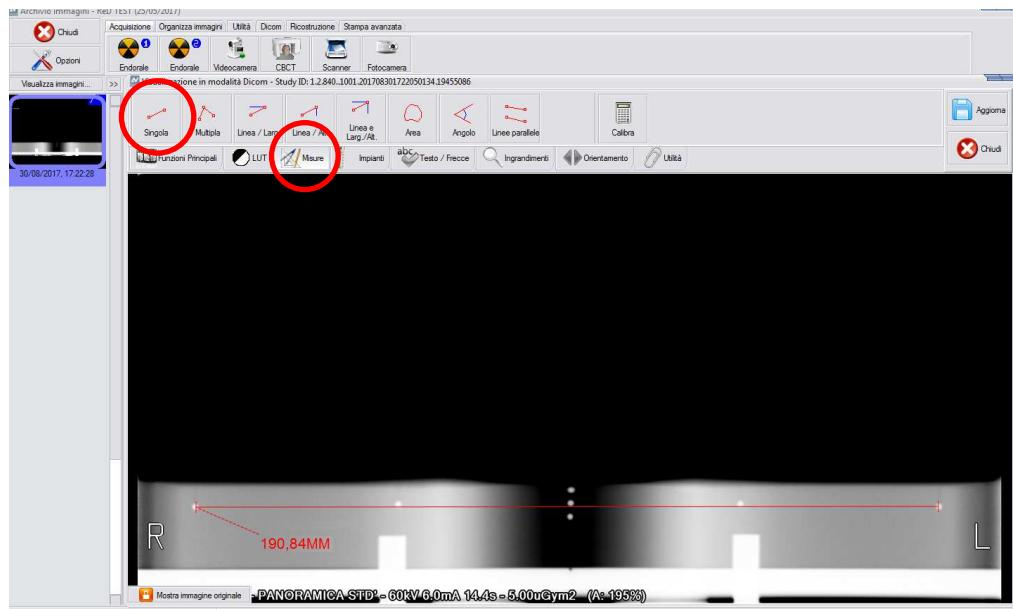

Figure 6-16
6. Set contrast and brightness level to have good visibility of all centering balls. Select from the menu "Measure" (Figure 6-16) the icon "Single" and measure the dimension of the image using as reference the two external balls. The image has to be $191\text{mm} \pm 2\text{mm}$ with Panoramic STD trajectory selected.